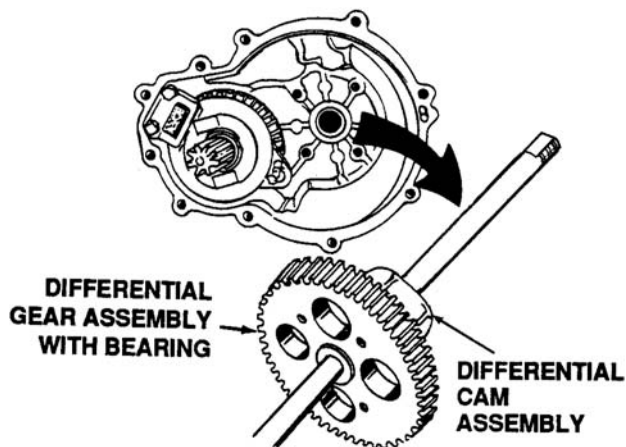

Figure 5-11. Differential Assembly
12. Remove the differential assembly by pulling the axle shaft straight out of transaxle housing. See Figure 5-11.